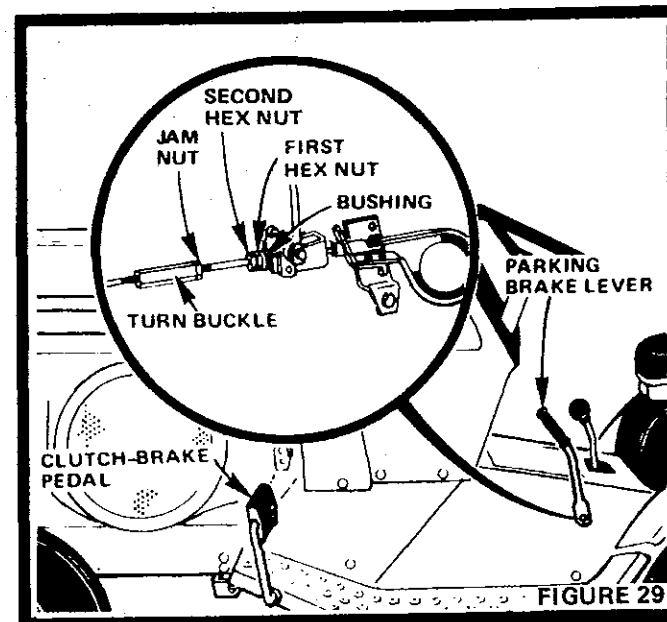

FIGURE 29
If Clutch-Brake Pedal (Fig. 29) has more than approximately 4 inches of travel from vertical to full brake position then brake adjustment is necessary.
- Loosen Jam Nut (Fig. 29) in order to turn turnbuckle until Clutch-Brake Pedal regains 4 inches of travel.
- Loosen Parking Brake Hex Nuts (Fig. 29).